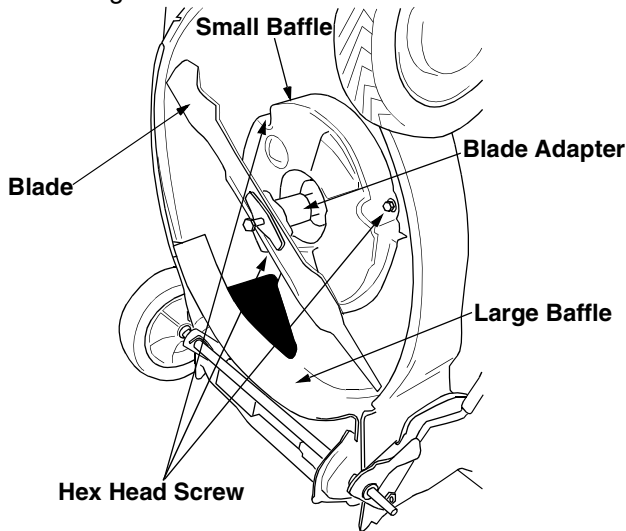

Figure 19
- Remove the blade, blade adapter and related hardware. See Figure 19.
- Replace the large baffle. Refer to Figure 19.